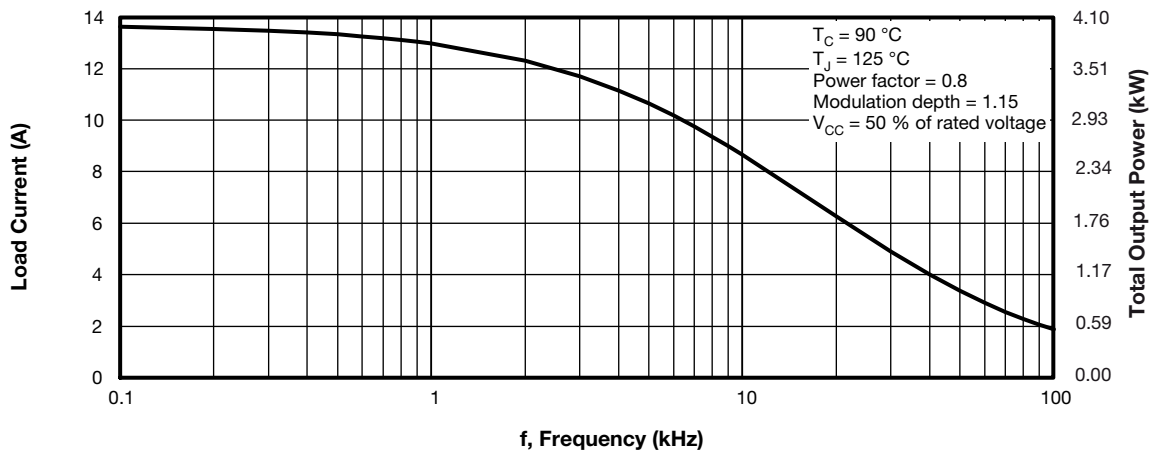

Fig. 1 - Typical Load Current vs. Frequency
Modulation depth (see fig. 1)	115 %
- Optimized for medium speed 1 kHz to 10 kHz, see fig. 1 for current vs. frequency curve